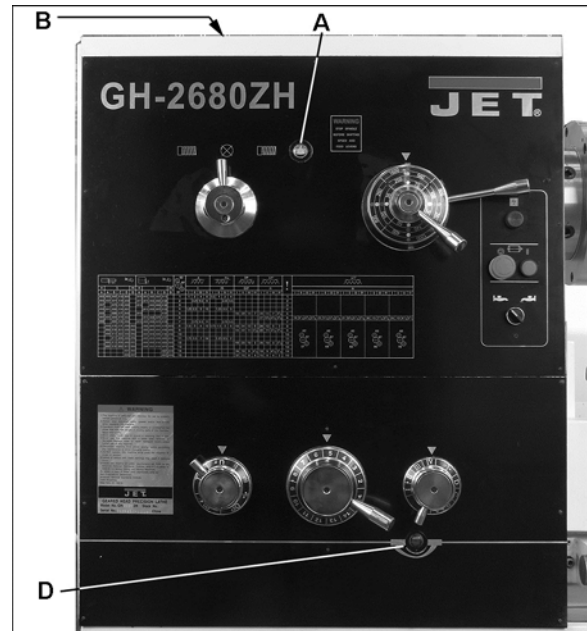
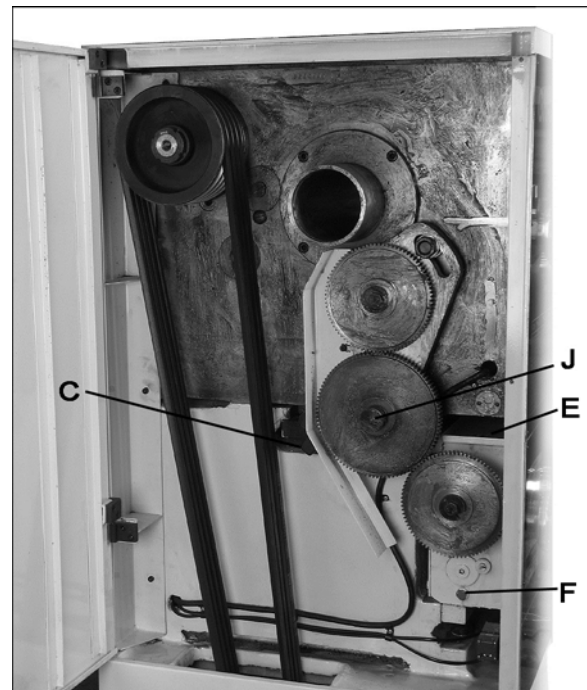

Figure 9 – Headstock lubrication
Figure 10 – Lubrication points
2. **Headstock** – Oil must be up to indicator mark in oil sight glass at the rear of the headstock. [NOTE: The sight glass on the front of the headstock (A, Figure 9) verifies operation of the oil pump, the one at rear of headstock (not shown) indicates oil level]. Top off with SAE 20W oil. Fill by removing the rubber mat and unscrewing the plug (B) on top of the headstock.
3. To drain the headstock, remove the nut on the drain pipe (C, figure 10). Drain oil completely and clean out all metal shavings, then rinse the casting case with kerosene. During the breaking-in process for the lathe, the first oil change should be after 10 days; the second after 20 days. Then change the oil in the headstock every three months.
5. **Change Gear Axle** – Periodically remove end plug (J, Figure 10) and press #2 lithium grease into the axle to lubricate the gear axle and sleeve. Coat all gears with non-slinging grease.
6. **Gearbox** – Oil must be up to indicator mark in oil sight glass (D, Figure 9). Top off with SAE 20W oil. To add oil to the gearbox, pour it into the pan (E, Figure 10). To drain, remove drain plug (F, Figure 10). Drain oil completely and refill after the first three months of operation. Then change oil in the gearbox every six months.
14. **Travel Setting Rod** – Periodically insert SAE 20W oil into the ball oiler on each end of the rod (Figure 9).